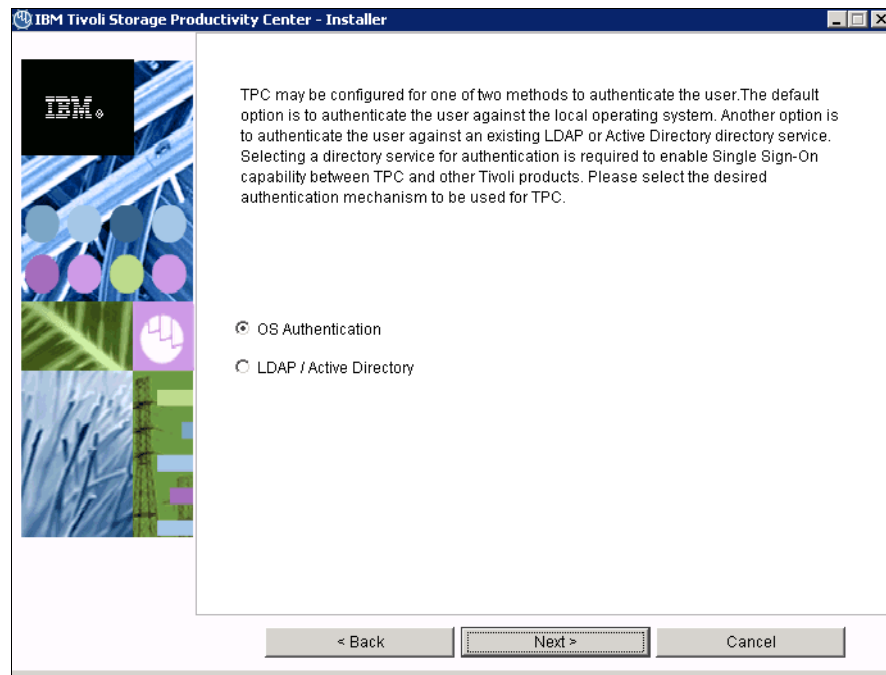

Figure 12-27 Select authentication method
7. Select your preferred authentication method and click **Next** (Figure 12-27).